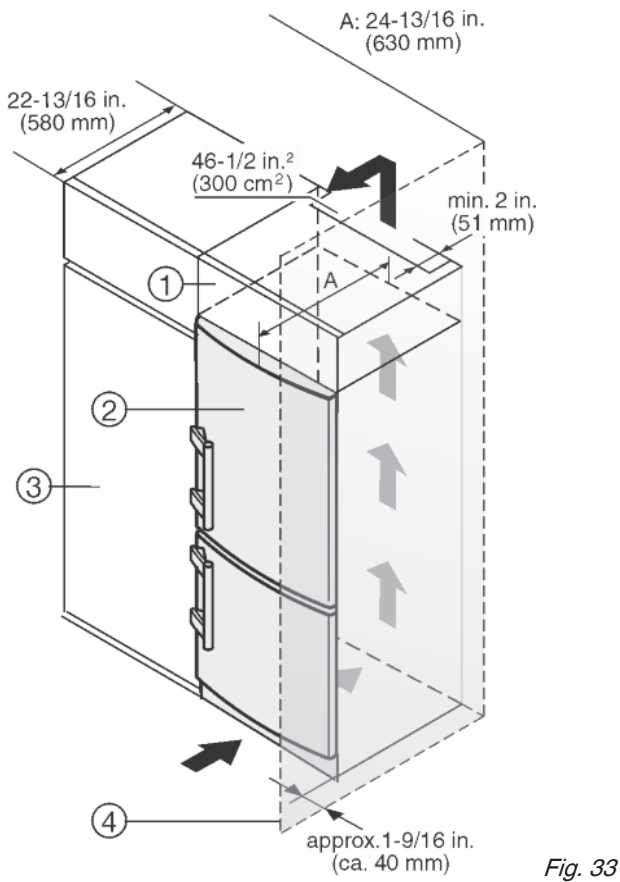

Fig. 33
- (1) Top cupboard (3) Kitchen cabinet
(2) Appliance (4) Wall
The appliance can be built into kitchen cabinets. To bring the appliance Fig. 33 (2) up to the height of the fitted kitchen units, a top cupboard Fig. 33 (1) can be added above the appliance.
When converting kitchen cabinets (max. depth 22-13/16 " (580 mm)) the device can be set up directly beside the kitchen cabinet Fig. 33 (3). The appliance door projects (34 mm) at the side and in the center of the appliance (50 mm) from the front of the kitchen cabinet. This allows it to open and close properly.
If the appliance is installed with the hinges next to a wall Fig. 33 (4), the gap between the appliance and the wall must be at least 1-9/16 " (40 mm). This is how far the handle protrudes when the door is open.